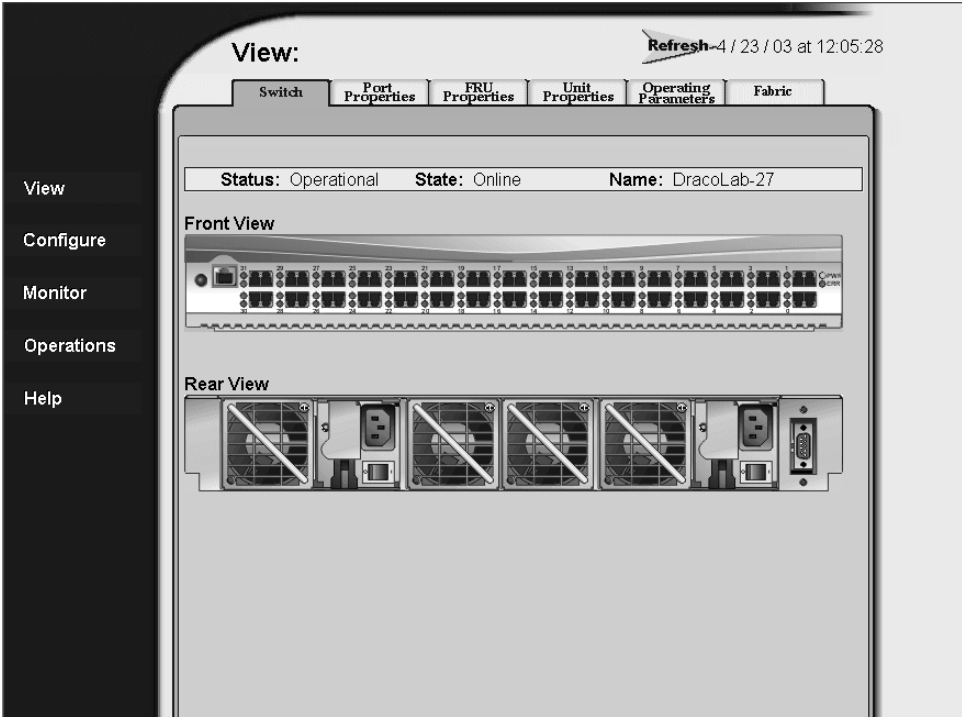

Figure 41: Embedded Web Server interface—View window
5. Click **OK**. The Embedded Web Server interface opens with the View window displayed (Figure 41).